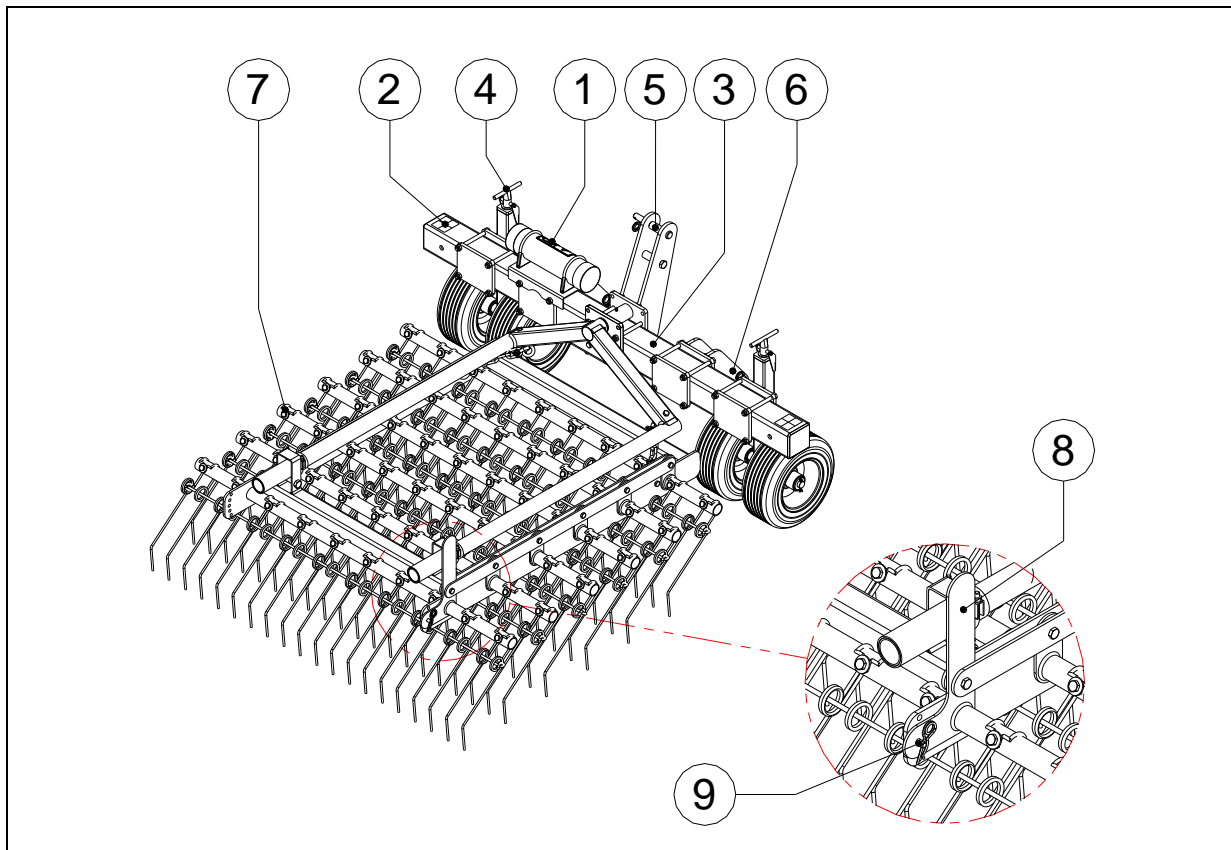

Figure 7
Figure 7 shows several important components:
1. Adjusting the running wheels by turning the spindles (4) (Figure 7) at the front side of the machine: